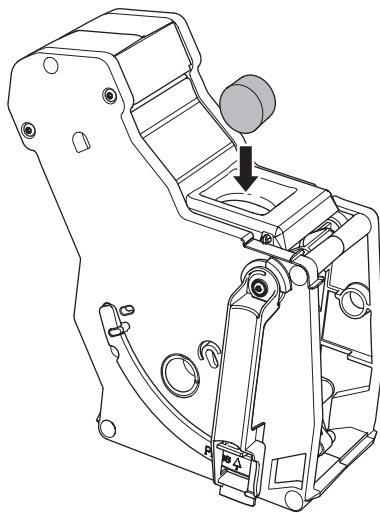

Fig. 18: Placing a cleaning tablet in the brewing unit.
4. Place the coffee grounds container beneath the outlet. 5. Remove the brewing unit and clean it as described in section 8.2 Cleaning the brewing unit on page 88. Do not switch off the appliance. 6. Place a cleaning table in the brewing unit (see Fig. 18). Insert the brewing unit into the appliance as described in section 8.2 Cleaning the brewing unit on page 88.